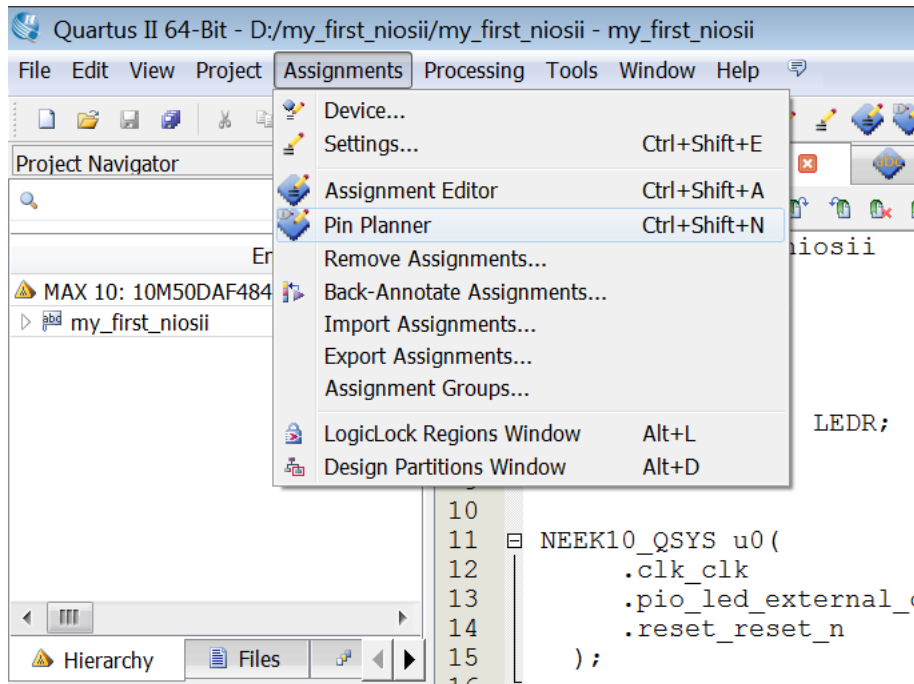

Figure 1-45 Open the Pin Planner
39. Choose **Assignments -> Pin Planner** to open the pin planner, as shown in **Figure 1-45**. **Figure**